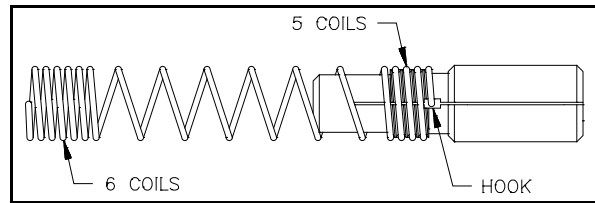

Figure 4.
- 4.3 Continue threading the hook onto the collet until it lodges into the center of the widened area of one of the slots. See Figure 4.